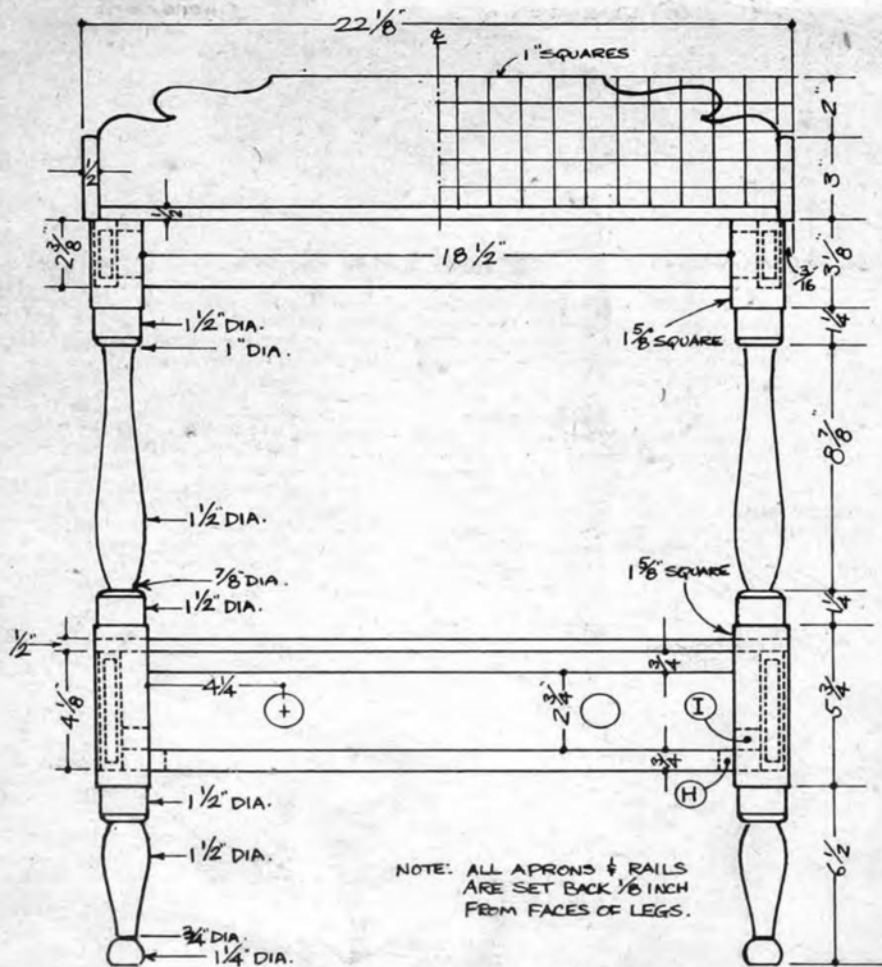

FIG. 1 FRONT ELEVATION
The top, unlike the original 15½ inch wide board, should be made by edge-jointing and gluing three or four ½ inch thick boards. Use light clamp pressure to prevent buckling. The sides (L) and back (M) are cut from ½ inch stock, allowing enough length for the through dovetail joint at each corner. Enlarge the patterns in Figs. 1